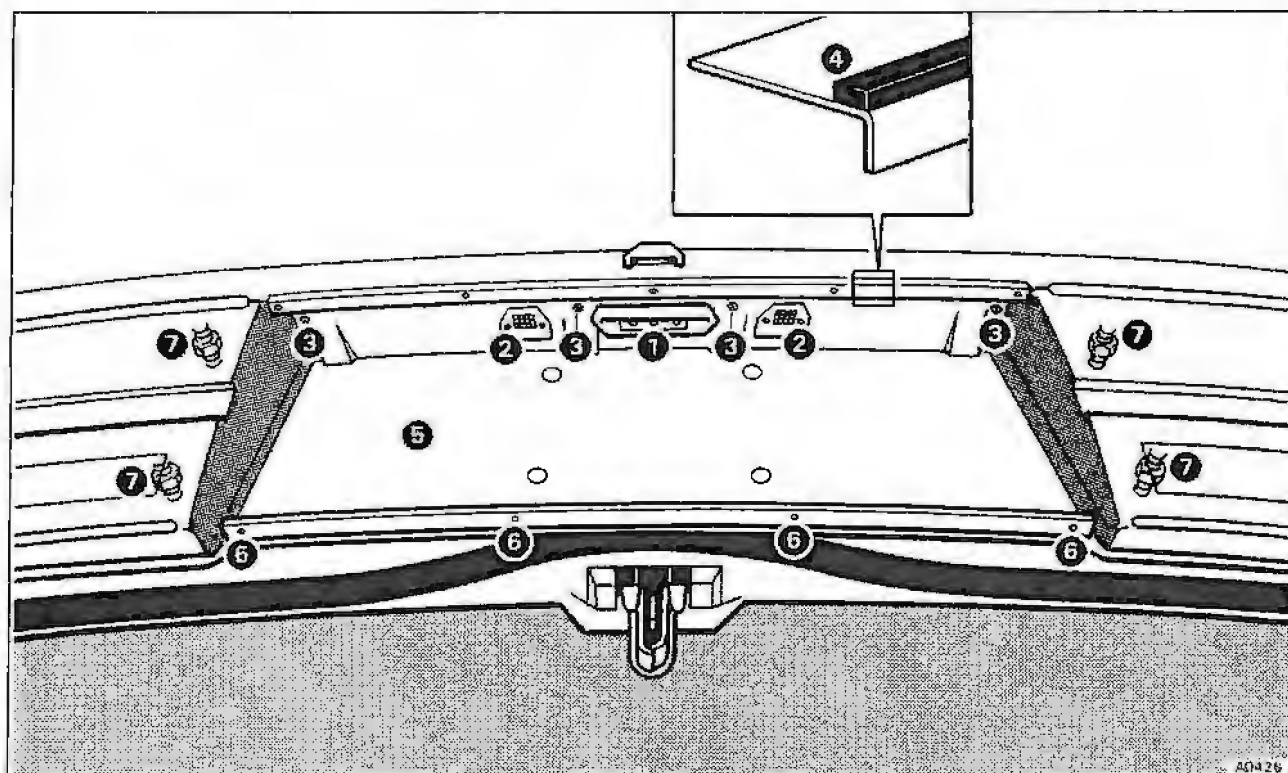

Fig. S12-15 Luggage compartment lid exterior fittings
Number plate lamp mounting bracket – To remove and fit (see fig. S12-15)
2. Drill out the pop rivets (item 1) securing the luggage compartment lid release handle. Remove the retaining plate, handle, and seal.
3. Remove the screws (item 2) securing each number plate lamp. Withdraw the lamps and foam gaskets. Release the Lucar connectors and remove the lamps.
4. Release the screws and washers (item 3) securing the mounting bracket. Remove the mounting bracket/finger grip assembly together with the foam seal (item 4). If the seal is found to be damaged or ineffective it must be renewed.
Number plate trim panel – To remove and fit (see fig. S12-15, item 5)